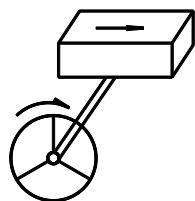
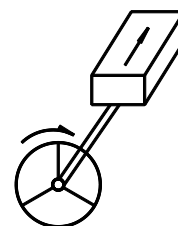

Fig. 9 Handwheel and moving
Fig. 10 Handwheels and moving directions of slides
The relationship between the operating directions of the handwheel (11) for moving the carriage in longitudinal direction, the handwheel (12) for moving the cross slide in cross direction and the handle (13) for moving the compound rest and corresponding movement of the carriage, the cross slide and the compound rest of the machine is in accordance with the standard GB/T17161-1997 (eqv.ISO447;1984) 《Operating Direction of Control Devices of the Machine》. When the handwheel is clockwise rotated (viewing from operator's facing to the shaft end used for installation of the handwheel), the controlled carriage makes straight movement toward right (see Fig. 9), the cross slide and the compound rest make straight movement far from operator (see Fig. 10)